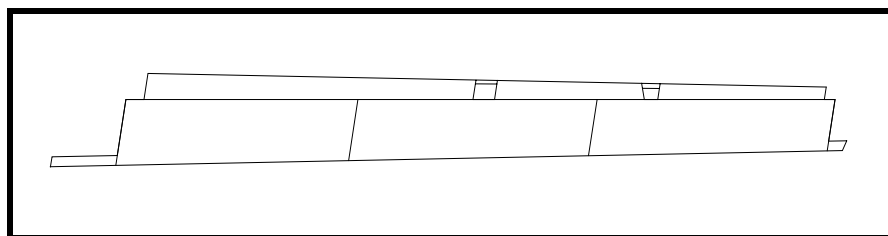

Figure 32
- ☐ Install the upper trailing edge skin between Sta. 10 and 14. See Figure 32.